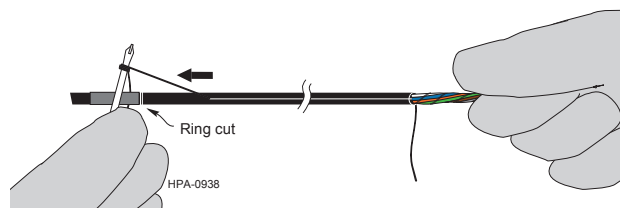

Figure 5
- Step 8:** Wrap the end of one of the exposed ripcords around the shaft of a small screwdriver and pull it through the outer jacket until it passes through the second ring cut at the tape wrap (Figure 5).